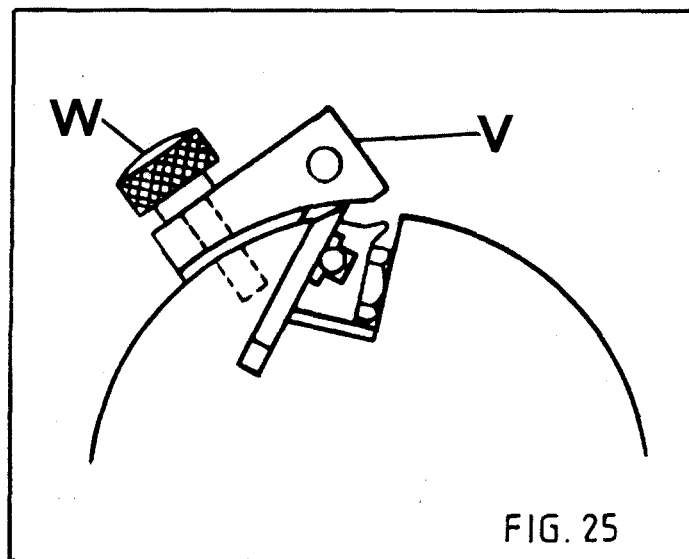

FIG. 25
- a) Turn the cutterblock to approximately the position shown in FIG.25 and loosen the 9 - M12 hexagon head screws, carefully remove knife from cutterblock.
- b) To reset the knives, the cutterblock should be in the approximate position shown in FIG.25. Place the knife in between wedge and cutterblock with the blade drawn forward slightly.
- c) Carefully secure the knife setting device 'V' FIG.25 (which when not in use is secured to the left side base top cover) to the cutterblock with the two knurled locking screws 'W' as shown in FIG.25.
- d) Whilst turning these locking screws 'W' FIG.25, knife will be lowered to correct setting which is reached when knurled screws are locked in position and knife just touches knife setting device.